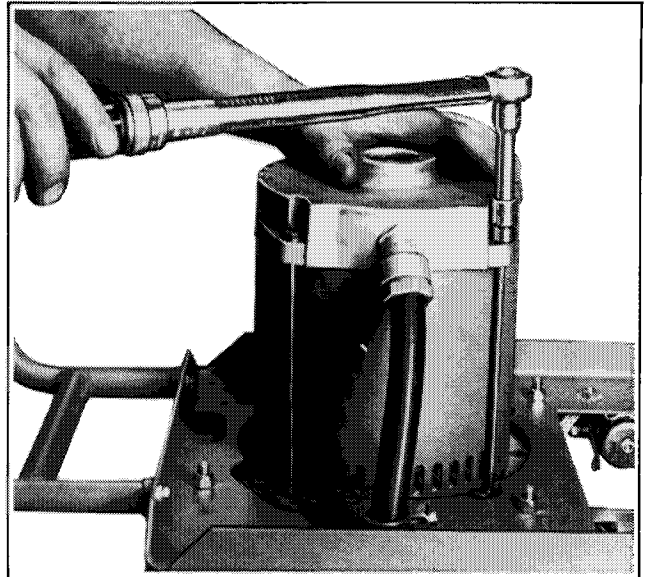

Figure 5-3. Removing Overbolts
5. Remove overbolts. Figure 5-3.